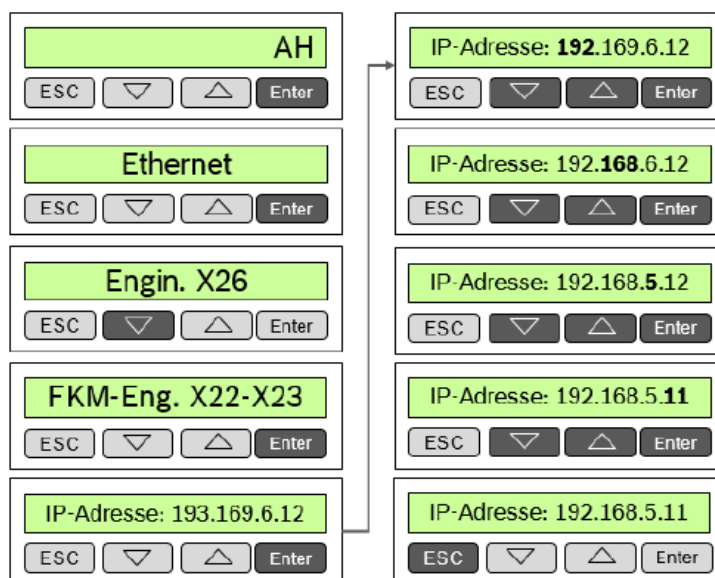

Figure 3: Adaptation of the IP address via the operating panel of the drive
Figure 3 shows the procedure using the example of ports X22/23 (MT) via the control unit of the drive.